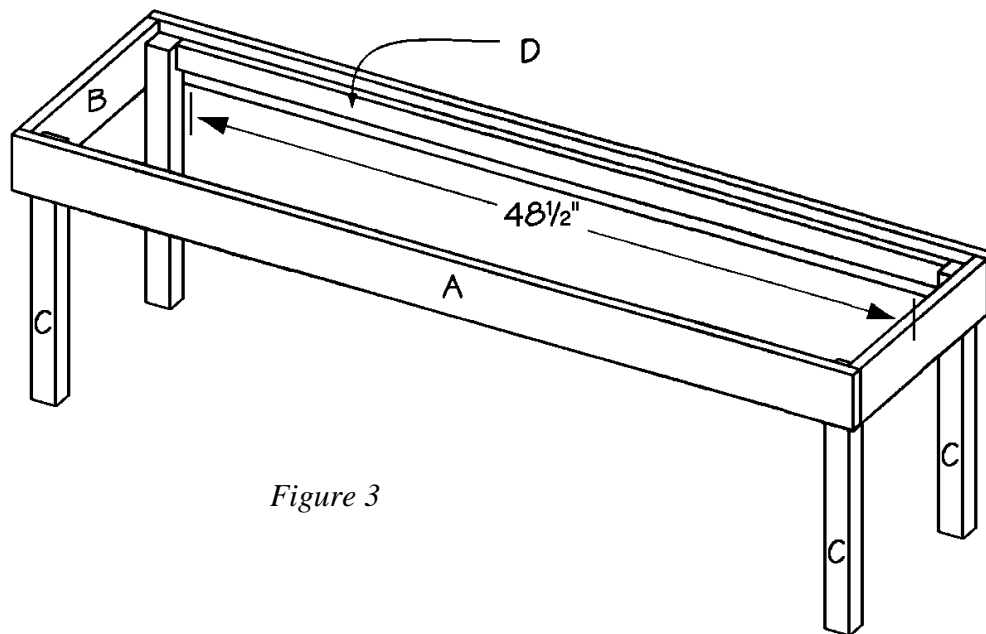

Figure 3
1. Cut two long inner supports (D) from 1 x 2 pine, each measuring 48-1/2" long.
2. Attach one long inner support (D) to the inside of the one long top (A), as shown in *Figure 3*. It should be positioned flush with the top of the leg (C),  $\frac{3}{4}$ " from the top edge of the long top (A). Screw through the long inner support (D) into the long top (A), using 1-1/4" long screws, approximately every 6".
3. Repeat the previous two steps to attach the remaining long inner support (D) to the inside of the opposite long top (A).